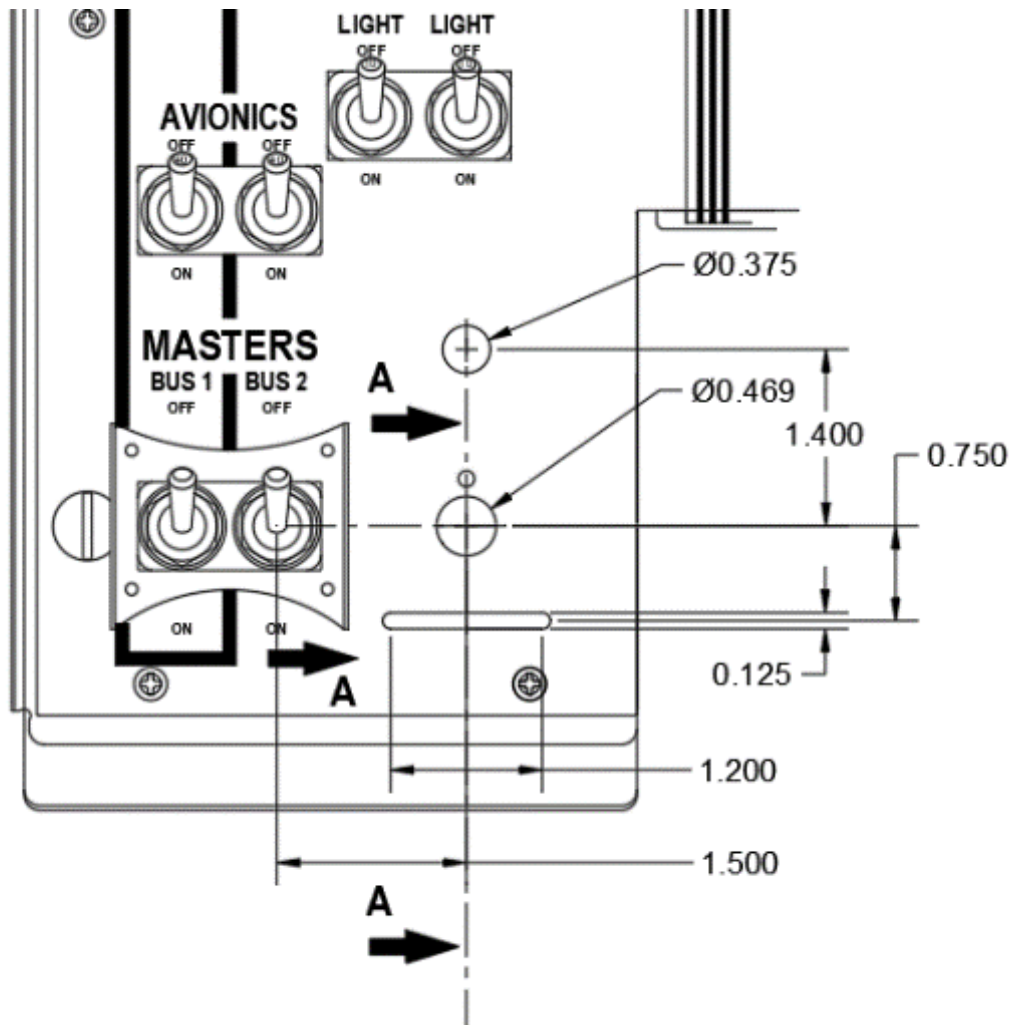
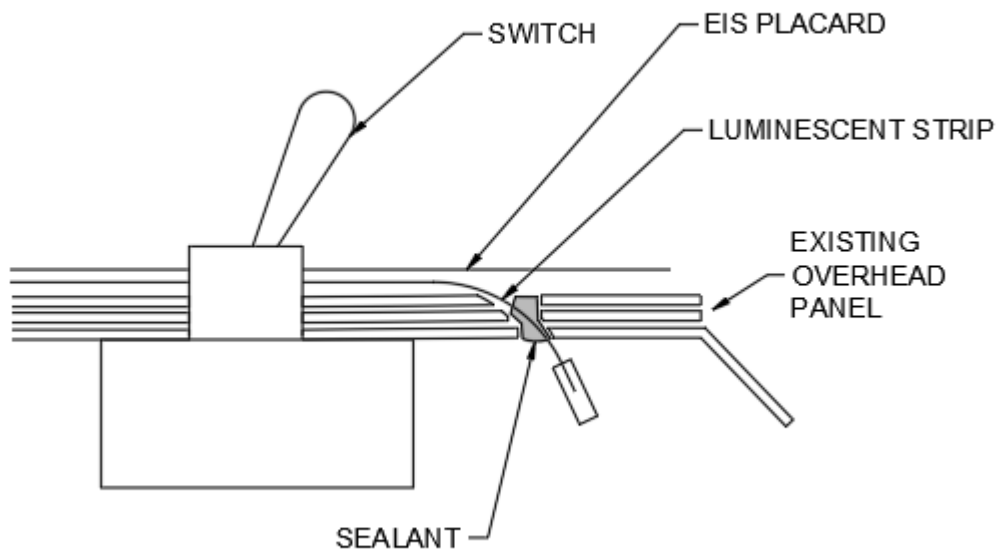

Figure 16 Switch and LED Cut-Out
Figure 17 View A-A Electro luminescent Strip and Placard Installation
22. Refer Figure 17, trim the electro luminescent strip so that when secured there will be 2.75" showing through the slot. Refer Figure 16, remove the electro luminescent strip backing and secure the strip to the overhead panel